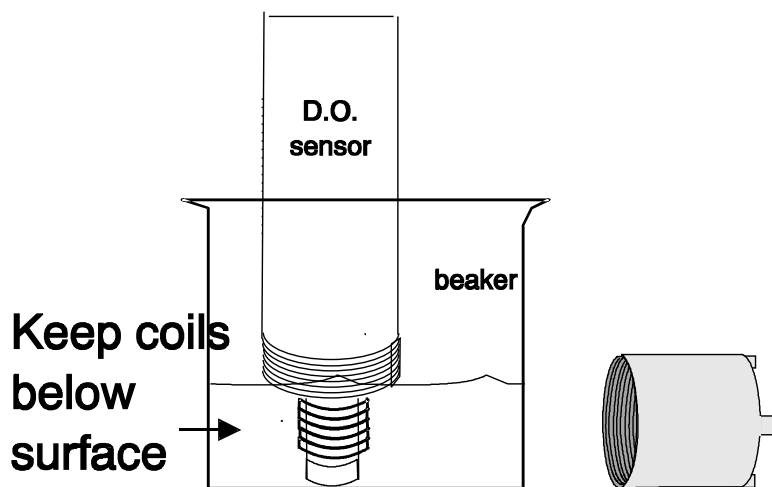

Figure 31 Chemical clean
2. Immerse in cleaning solution as shown (Figure 31) for 5 to 10 minutes, or until deposits disappear.